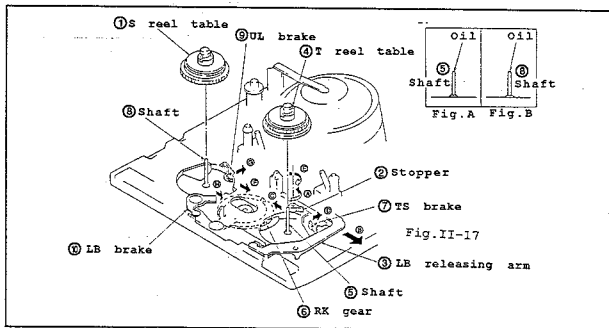

Fig.II-17
• Disassembling (Fig.II-17)
- (1) In the same procedures in "3-4", dismount the S and T brake.
- (2) In the same procedures in "3-5", detach the TL plate.
- (3) In the same procedures in "3-11", take off the tension regulator band.
- (4) Dismount the S reel table ①.
- (5) Turn the stopper ② in the direction of ④ by 90° approximately.
- (6) While shifting the LB releasing arm ③ in the direction of ⑤, dismount the T reel table.
• Reassembling (Fig.II-17)
- (1) Apply the 1/2 drop of oil to the shaft ⑤. (Fig.A)
- (2) Rotate RK gear ⑥ to the direction of ③.
- Rotate the TS brake ⑦ to the direction of ⑩.
- (3) While shifting the LB releasing arm ③ to the direction of ⑤, mount the T reel table ④ to the shaft ⑤.
- Then, turn the stopper ② to the direction of ⑥ until it comes to an end.
- (4) Apply the 1/2 drop of oil to the shaft ⑥. (Fig.B)
- (5) Rotate the RK gear ⑥ to the direction of ③.
- Rotate the UL brake ⑨ to the direction of ③.
- Rotate the LB brake ⑩ to the direction of ④.